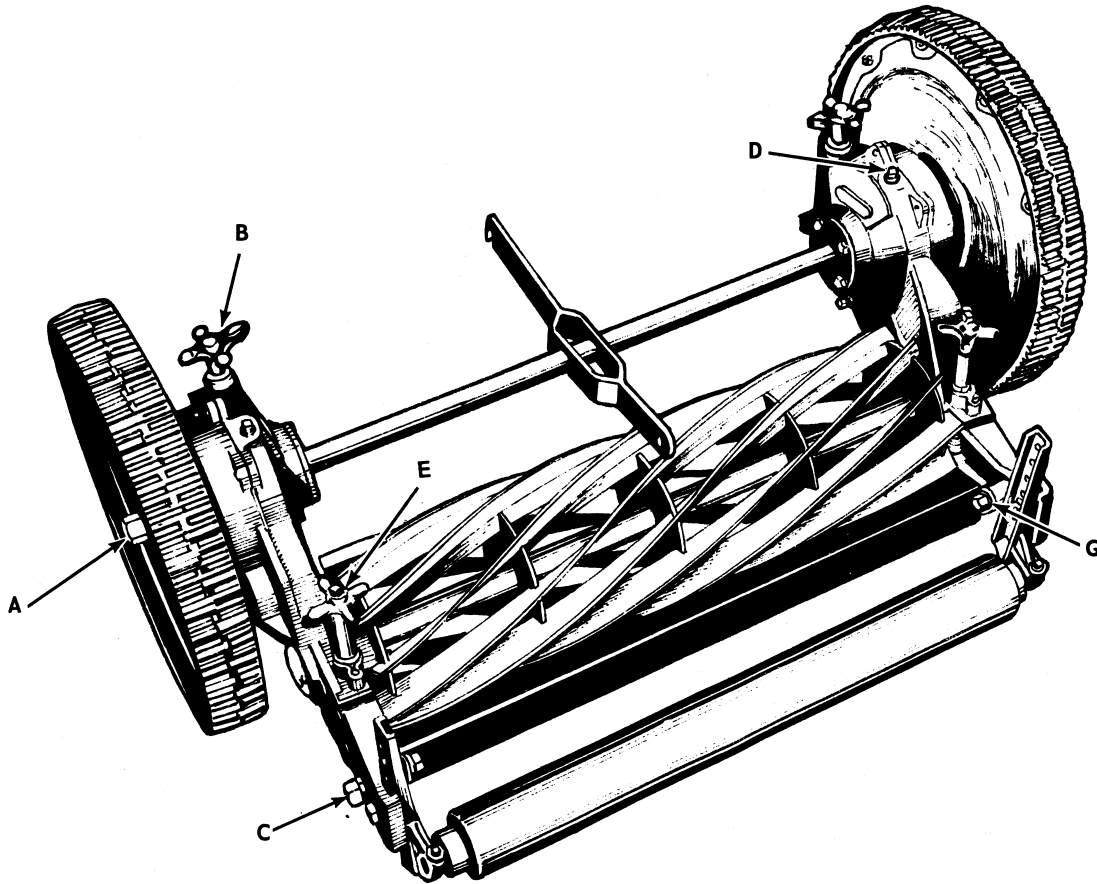

Figure 5
- Remove roller bracket bolts (C, Fig. 5). Raise or lower as desired by relocating bracket bolts in the proper hole combinations for type and size of wheels or tires shown on chart.
All new Fairway mower units are properly lubricated at the factory; however, overhauled units must be properly lubricated before they are put back into operation. Refer to Fig. 5 for reference letters used in these instructions.